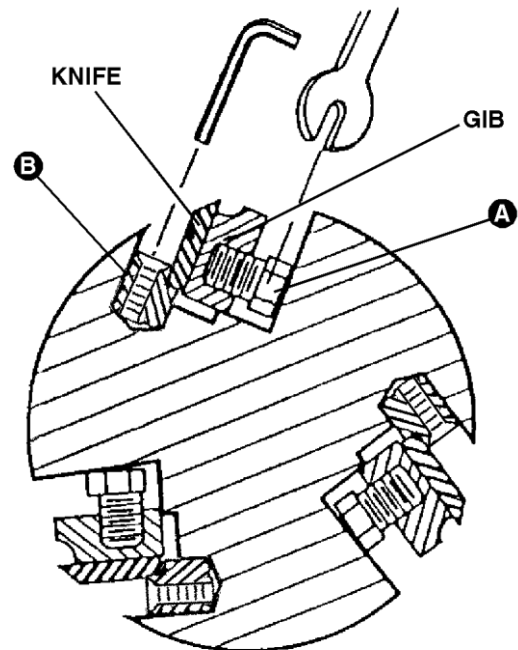

Fig. 12
3. To remove the old knives, loosen gib locking bolts (A), and remove gib, knife, and jack screws, Figure 12.
4. Using a hex wrench, turn jack screws (B) down one turn.